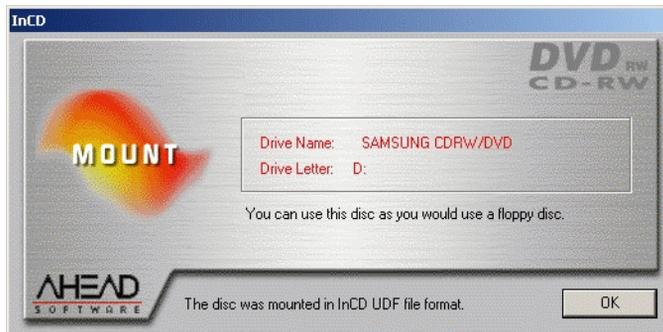

Figure 46 InCD Dialog Box
4. Insert the rewritable CD with backed up director or sysplex timer system library files into the CD-RW (D:) drive. After a few moments, the *InCD* dialog box displays, indicating the presence of a CD in the drive (Figure 46). Click *OK* to close the *InCD* dialog box.